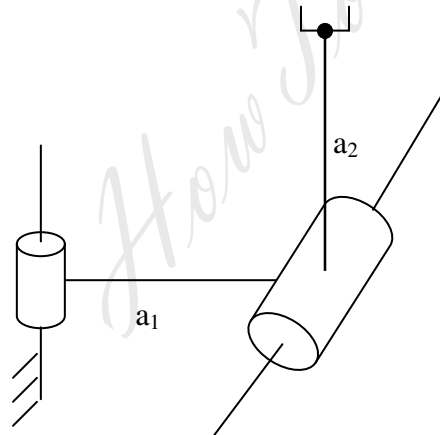

Fig. 1
- Solve the inverse kinematics for the two-link arm shown in fig. 1. [16]